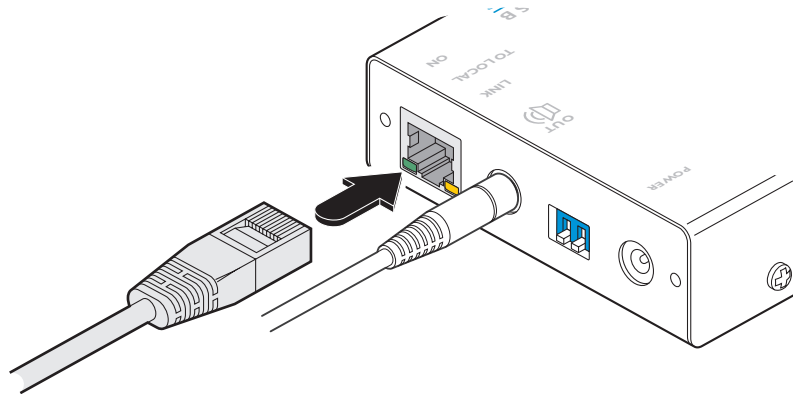

Figure 3-18. Attaching the CATx link cable
- 1 Attach the connector of the category 5, 5e, 6, 7 or 7a link cable (up to 984 feet/300 meters in length) to the 'TO LOCAL' socket on the remote module as shown in Figure 3-18: